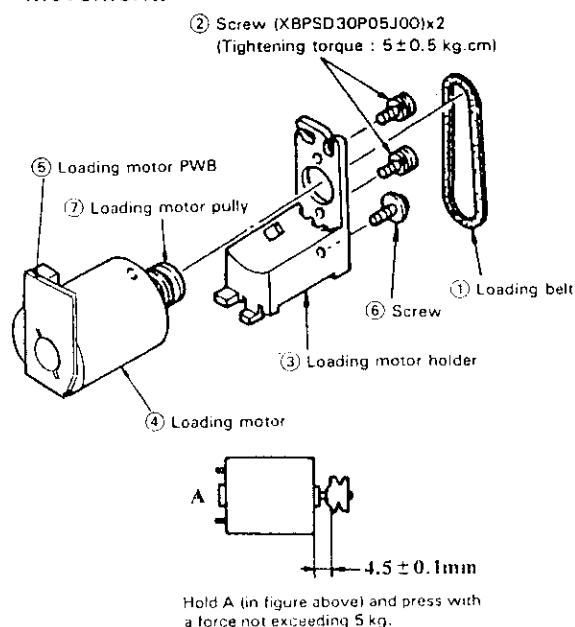

Figure 1-30.
• Replacement (Fig. 1-30)
3. Remove the loading belt ①.
4. Remove the cup-tight screw ⑥ (XHPSD30P08WS0). Tilt the mechanism chassis for easy removal.
5. Remove the two screw ② (XBPSD30P05J00) and remove the loading motor ④ from the loading motor holder ③.
6. Remove the loading motor PWB ⑤.
7. Replace the loading motor along with the pulley ⑦.